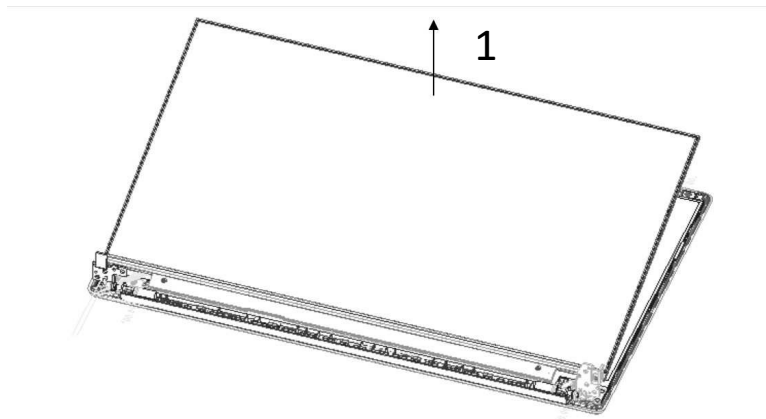

Figure 4-20 Removing LCD Panel follow direction 1.
2. Follow the Figure 4-20 direction 1 to lift up LCD panel.
4. Lift LCD panel top side up as Figure 4-20 shown, then place the LCD panel bottom side down on the LCD module cover.